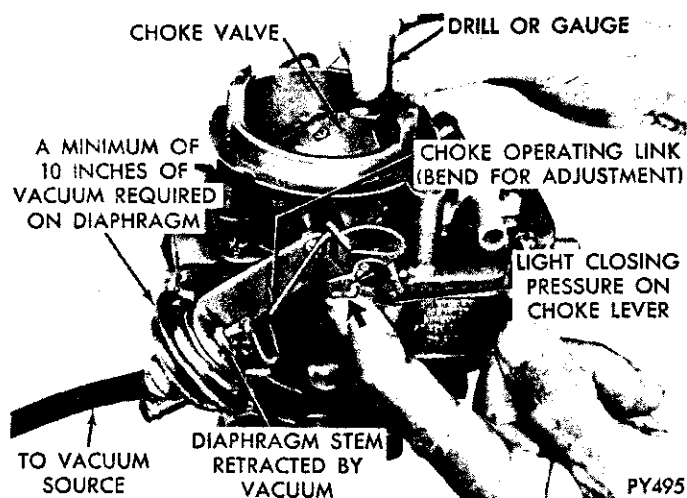

Fig. 16—Checking Choke Vacuum Kick Setting
(1) If adjustment is to be made with engine running, disconnect fast idle linkage to allow choke to close to the kick position with engine at curb idle. If an auxiliary vacuum source is to be used, open throttle valves (engine not running) and move choke to closed position. Release throttle first, then release choke.
(2) When using an auxiliary vacuum source, disconnect vacuum hose from carburetor and connect it to hose from vacuum supply with a small length of tube to act as a fitting. Removal of hose from diaphragm may require forces which damage the system. Apply a vacuum of 10 or more inches of mercury.
(3) Insert specified drill (refer to Specifications) between choke valve and wall of air horn (Fig. 16). Apply sufficient closing pressure on lever to which choke rod attaches to provide a minimum choke valve opening without distortion of diaphragm link. Note that